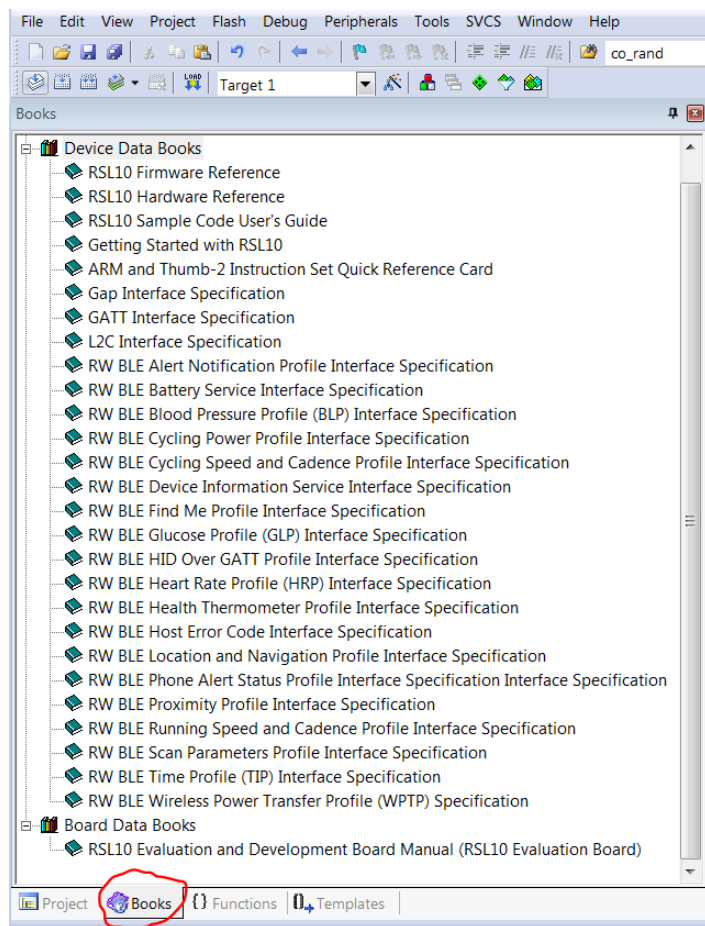

Figure 50. Accessing RSL10 Documentation from the Keil μ Vision IDE
- Keil μ Vision IDE: documentation is available in the **Books** tab, as shown in Figure 50 on page 43.